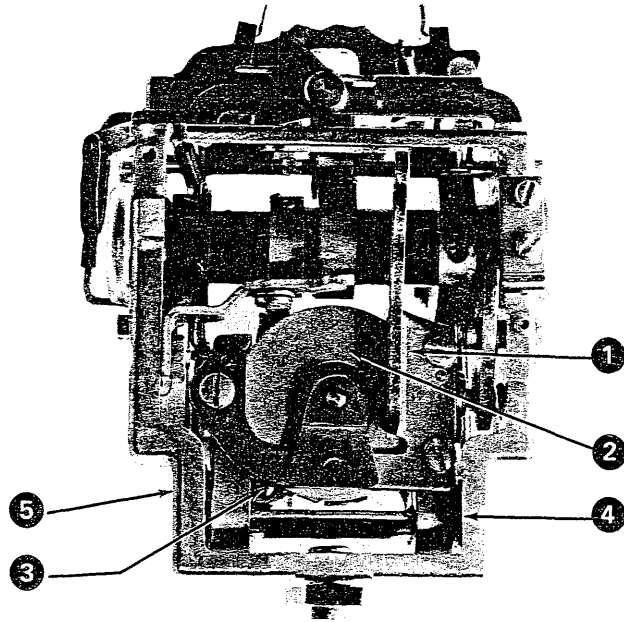

Figure 4-56. Carrier and Rocker Removal (Steps 15-19)
15. Remove the rotate spring, cage, and pulley (No. 2, Figure 4-56).
16. Remove the tape guide (No. 3, Figure 4-56).
17. Remove the C-clip on the rocker shaft (No. 4, Figure 4-56).
18. Loosen the rocker-shaft setscrew and remove the rocker shaft (No. 5, Figure 4-56).